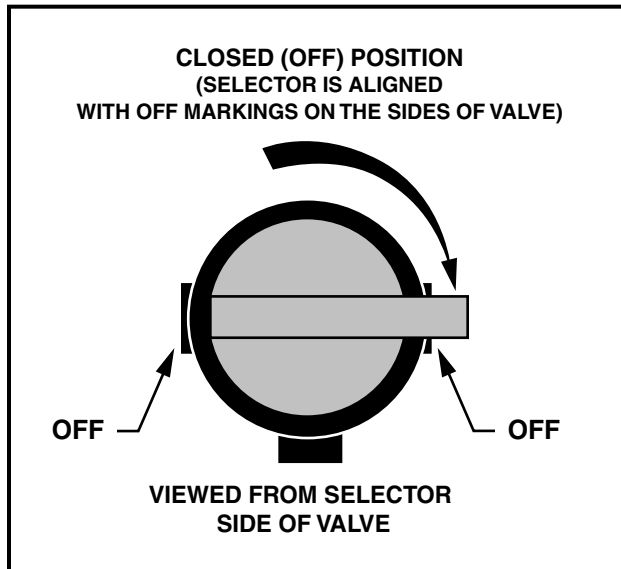

Figure 12 Fuel Shut-off Valve – Closed Position
2. Turn the key switch to OFF and place the Forward/Reverse handle in the NEUTRAL position. Remove the key, and turn the fuel shut-off valve to closed (OFF) position when the vehicle is not in use (**Figure 12, Page 23**). **See also Figure 19, Page 30.**
- Turn fuel shut-off valve to closed (OFF) position (Figure 12, Page 23).
- Turn fuel shut-off valve to closed (**OFF**) position (Figure 12, Page 23).
- 4.1. Place the Forward/Reverse handle in the **NEUTRAL** position. Turn the fuel shut-off valve to the closed (**OFF**) position (**Figure 12, Page 23**) and run the engine until fuel remaining in the carburetor and fuel lines is depleted and the engine stalls.
- Turn fuel shut-off valve to closed (OFF) position (**Figure 12, Page 23**).